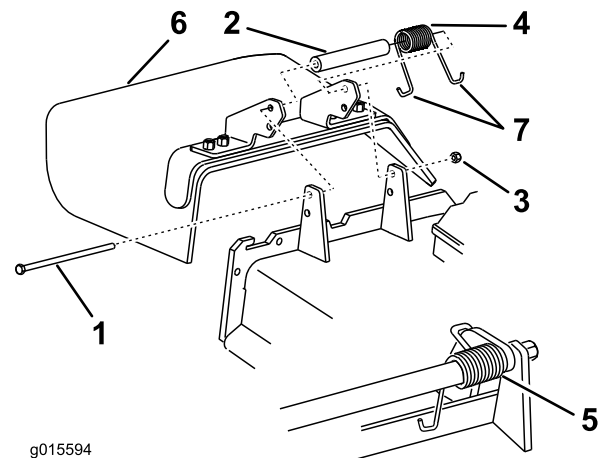

Figure 103
1. Remove the locknut, the bolt, the spring, and the spacer holding the deflector to the pivot brackets (Figure 103).
2. Remove the damaged or worn grass deflector (Figure 103).
Note: Make sure 1 J-end of the spring is installed behind the deck edge before installing the bolt as shown in Figure 103.
6. Place one J-hook end of the spring around the grass deflector (Figure 103).